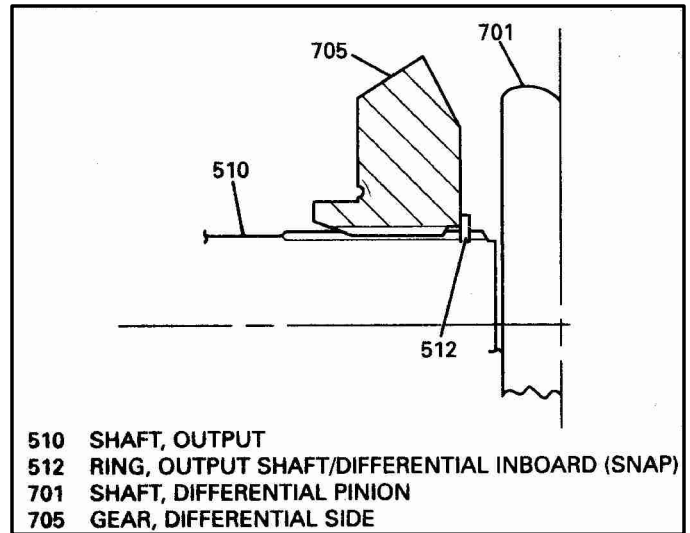
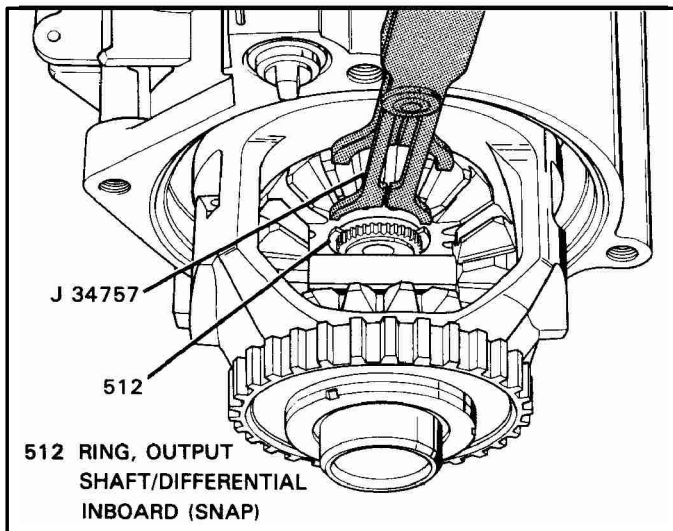

Figure 55
Figure 54
27. Remove the output shaft retaining clip using tool shown in Figure 54. For a cross-section view, refer to Figure 55.